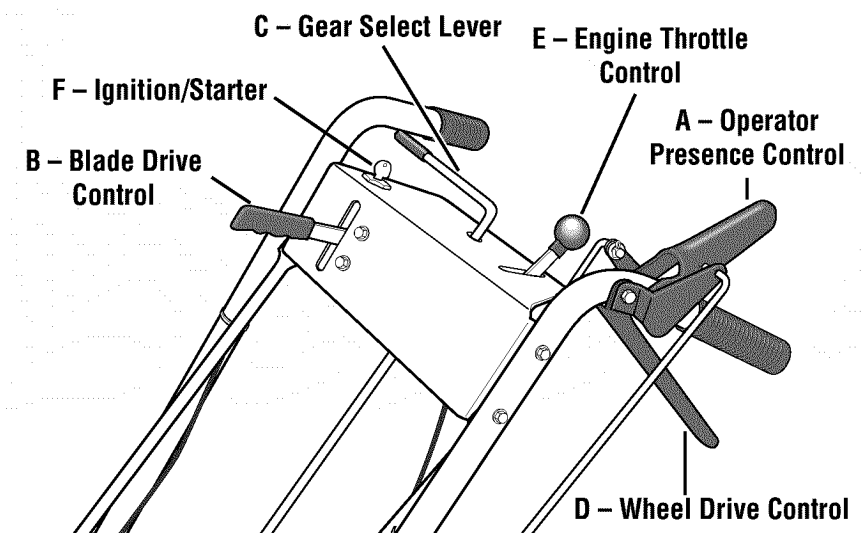

Figure 4-2: Mower Controls
The mower can be manually pushed or pulled by putting the Gear Select Lever (C, Figure 4-2) in N (neutral) and pressing and holding the Operator Presence Control (A, Figure 4-2) down against the handlebar grip.
3. Move Engine Throttle Control (E, Figure 4-2) fully upward to choke setting to start a cold engine or to fast (rabbit) setting to start a warm engine.
- B. Turn ignition key (F, Figure 4-2) fully clockwise to crank engine. To avoid damage to starter motor, do not crank engine for longer than five seconds at a time. Also, allow 15 seconds between each start attempt. If engine fails to start after three attempts, repeat instructions starting with Step 2 (try setting throttle at fast setting).
2. Press and hold Operator Presence Control (A, Figure 4-2) against handlebar grip.
3. Slowly push Blade Drive Control (B, Figure 4-2) fully forward until it stays in the engaged position. The blades are now rotating.
- A. Press and hold Operator Presence Control (A, Figure 4-2) against handlebar grip.
- B. Put the Gear Select Lever (C, Figure 4-2) into one of the numbered settings (1 - Slow, 2 and 3 - Medium, 4
- C. To start the wheels, slowly squeeze the Wheel Drive Control (D, Figure 4-2). The harder you squeeze, the faster the wheels will turn. To avoid sudden acceleration, slowly squeeze the lever.
- A. Stop the mower blades and wheels by releasing the Operator Presence Control (A, Figure 4-2).
- C. Put the Gear Select Lever (C, Figure 4-2) in R (reverse) setting by first moving lever to N (neutral). Then pull lever up, turn it to R position, and release lever.
- D. To start the wheels, slowly squeeze Wheel Drive Control (D, Figure 4-2). To avoid sudden acceleration, slowly squeeze the lever.